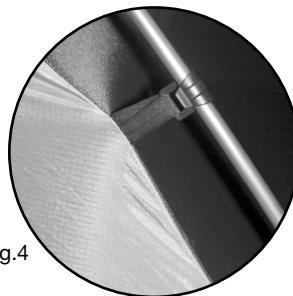

fig.4
- Working your way around the tent, attach all the clips from the corners of fly to the poles. See fig.4.